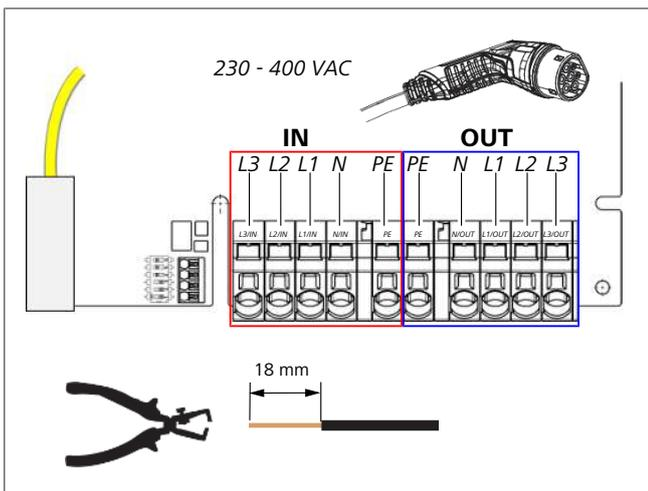

Fig. 8
- ▶ Using the slot-head screwdriver (3.5 mm), connect the individual cable ends according to the specification in the illustration (Fig. 8) on the right terminal block with the "out" label.
- ▶ Using the slot-head screwdriver (3.5 mm), connect the individual cable ends according to the specification in the illustration (Fig. 8) on the left terminal block with the "IN" label.